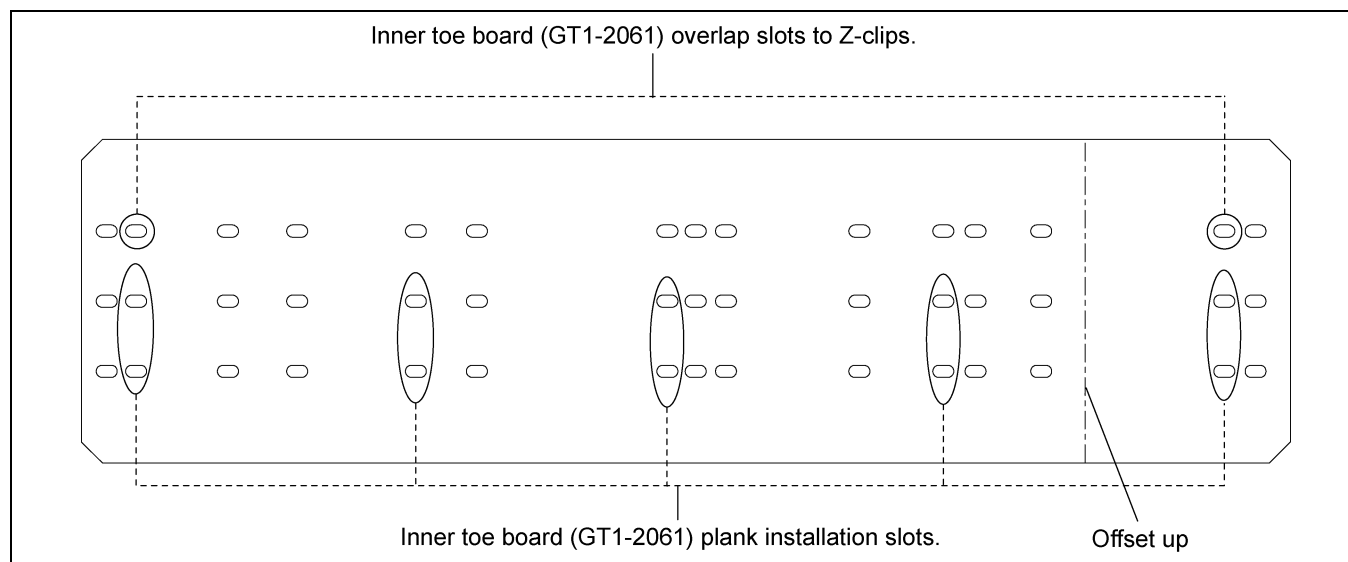

Figure 5K 18' Inner Toe Board (GT1-2061)
3. Inner toe board is arranged with overlap slots on each side and plank installation slots. Install 18' inner toe boards (GT1-2061) to corresponding overlap and plank installation slots as shown in *Figure 5K.*